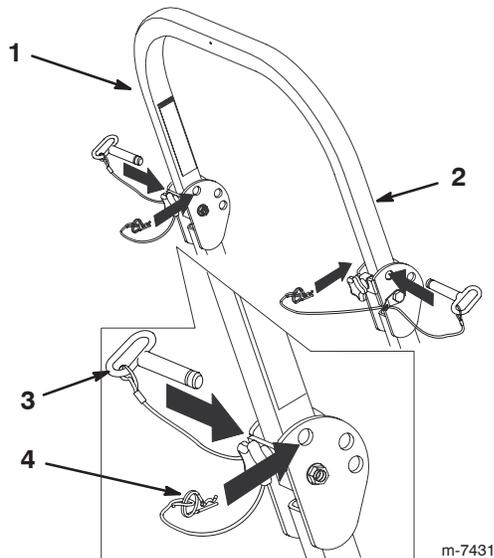

Figure 3
- Remove the hairpin cotter pins and remove the 2 pins (Fig. 3).
- Install the 2 pins and secure them with the hairpin cotter pins (Fig. 3).
- To raise the roll bar, remove the hairpin cotter pins and remove the 2 pins (Fig. 3).
- Raise the roll bar to the upright position and install the 2 pins and secure them with the hairpin cotter pins (Fig. 3).